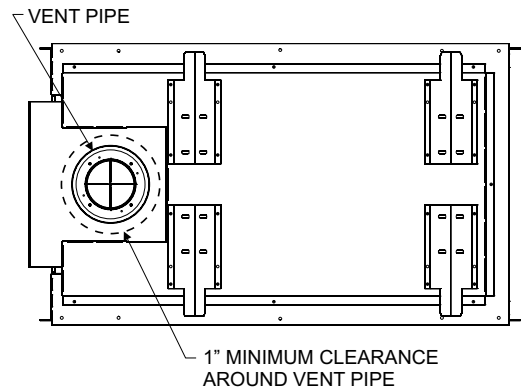

Figure 18
**Note:** Maintain one inch (1") of clearance around vertical vent pipe. **See Figure 18.** For horizontal vent, maintain a minimum 1" clearance to the bottom and sides of the vent, and 3" clearance to combustibles above the vent pipe. **See Figure 19.**